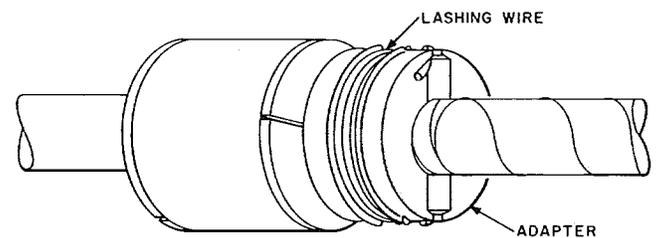

Fig. 22—Adapter Assembly Installed
3.21 Where adapter assemblies are used, fasten the two spacers over the inner sheath clamp with the lead lashing wire provided. Use three turns of lashing wire and terminate as shown in Fig. 22.